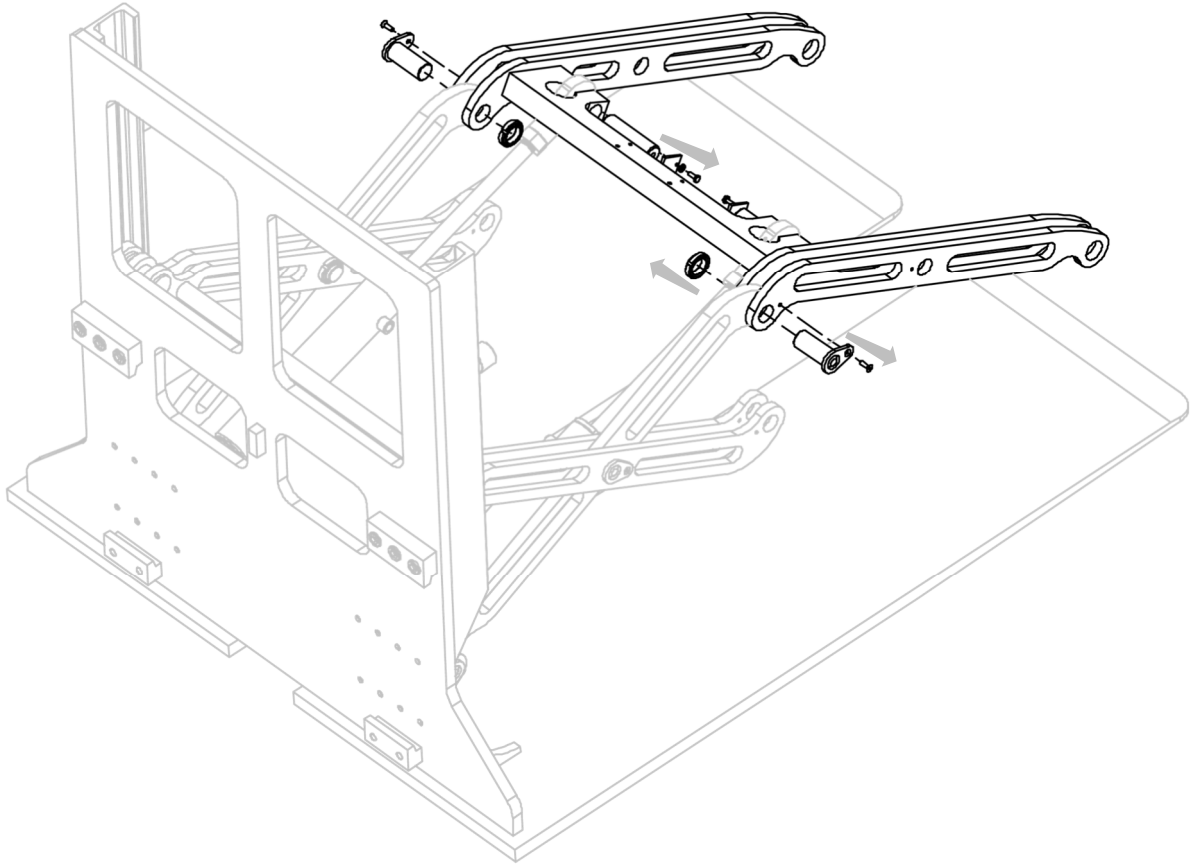

Figure 22
5. Remove the four pins that hold the pair of arms (see *Figure 22*).